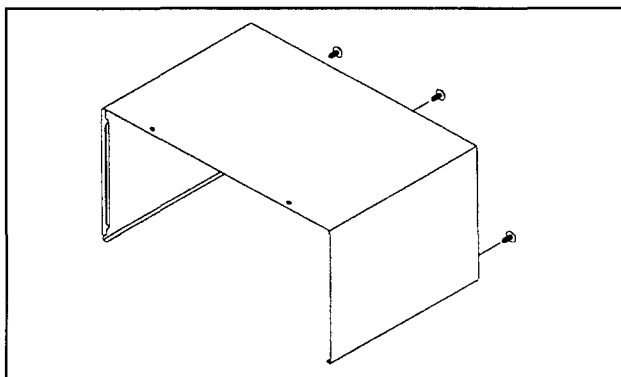

Figure 13
1. Remove cabinet. (Figure 13)